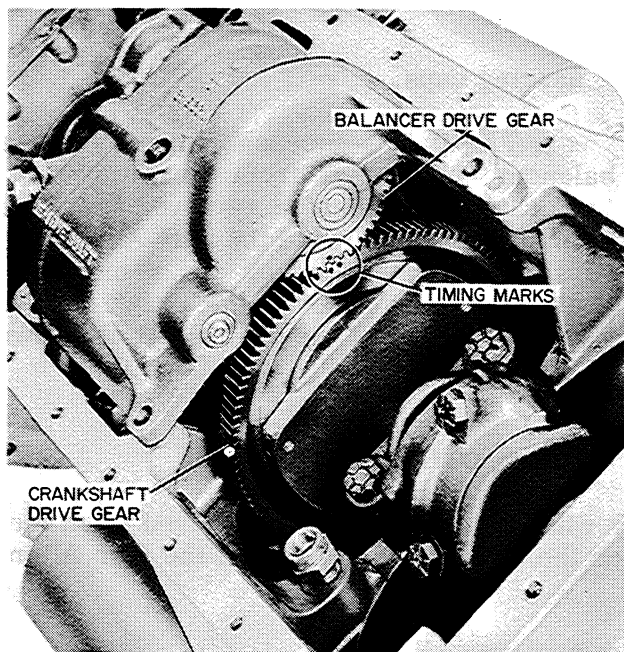

Figure MM-33
1. The balancer rotates at twice the speed of the crankshaft. There are two positions on the crankshaft drive gear that can be properly timed to the driven gear in the balancer. These two positions will be 180° apart on the crankshaft drive gear. Install the balancer on the mounting pads of the cylinder block with the proper timing marks meshed, Figure MM-33.